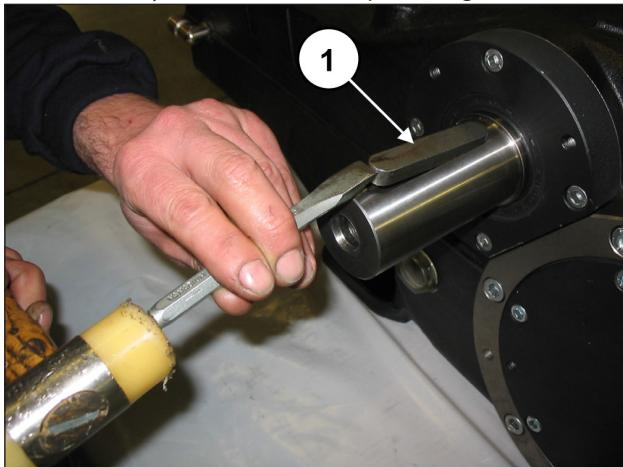

Fig. 7
Remove the key from the PTO shaft (pos. ①, Fig. 7).